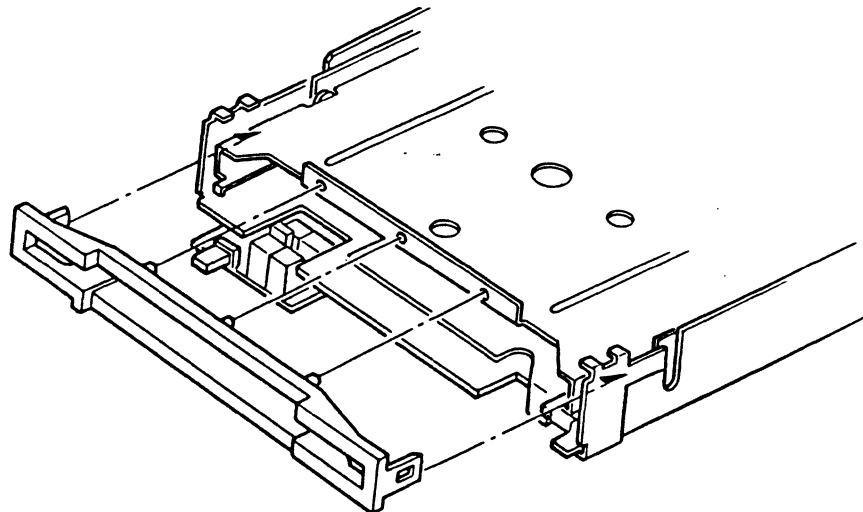
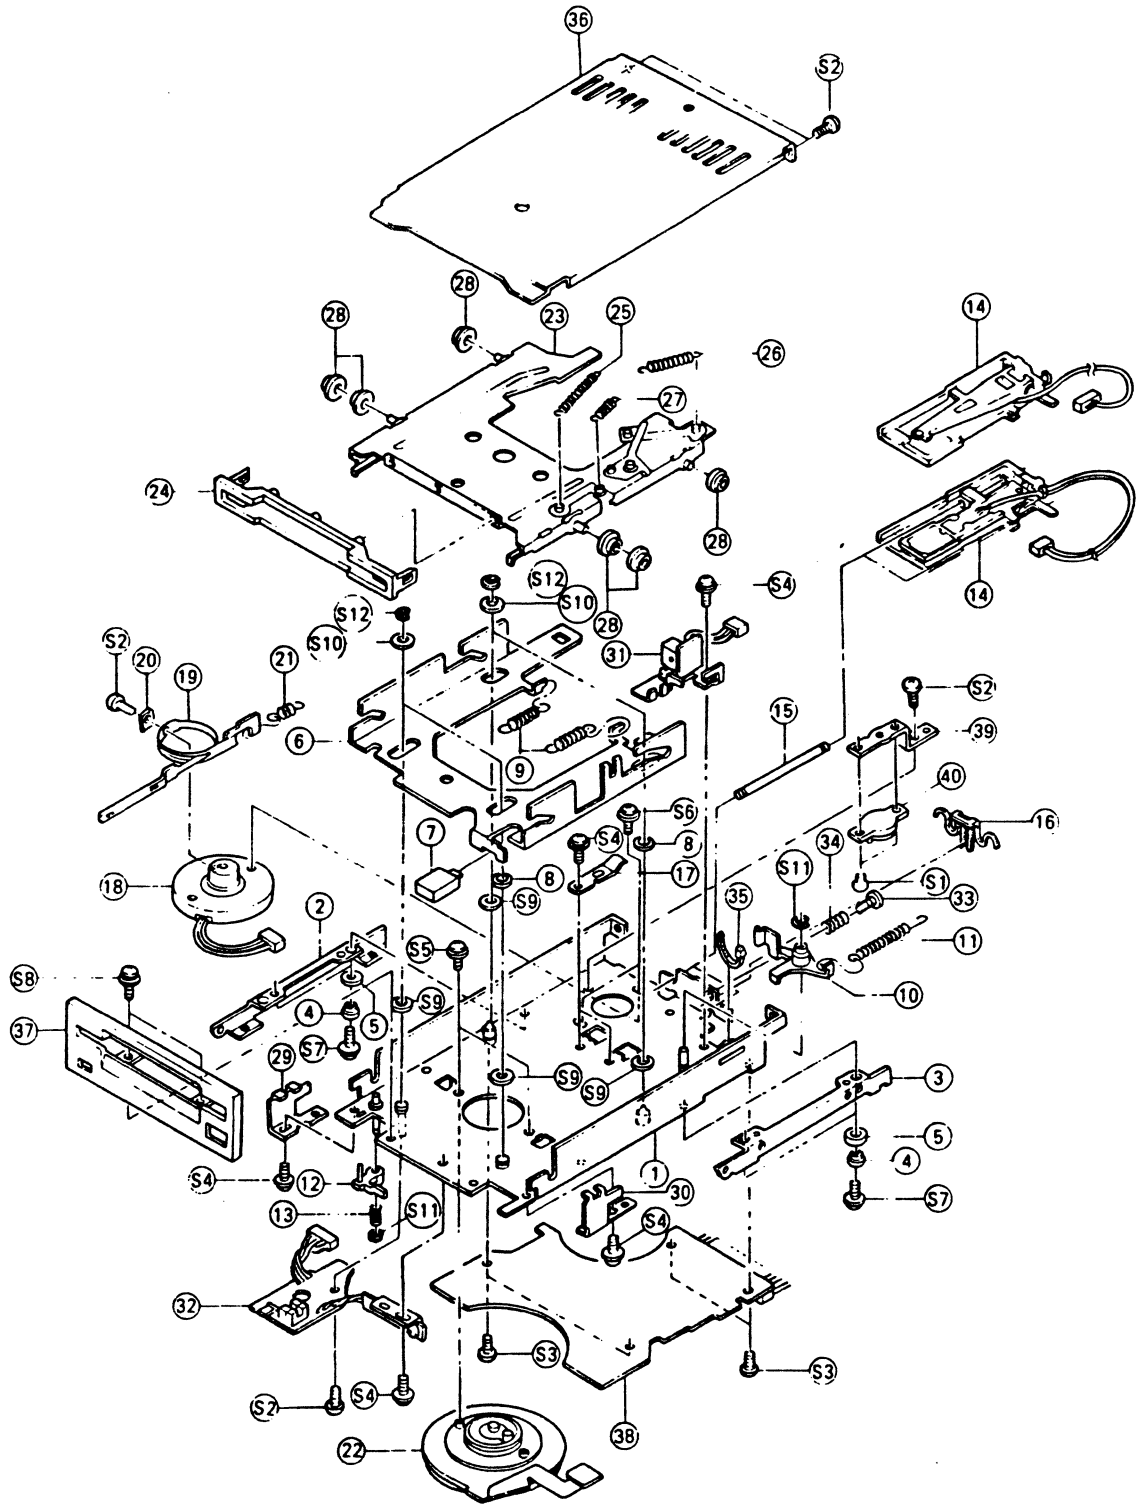

Fig.421 Replacing Front Door
Fig. 505 Disassembled View of Mechanism
- (1) Loosen the screw (Fig.505, $\text{\textcircled{S8}}$) mounting the front bezel (Fig. 505, $\text{\textcircled{37}}$), and pull the front bezel this side to remove. Take care not to drop the eject button.
- (2) Remount a new front bezel in the reverse procedure.
- (1) Remove the shield plate (Fig.505, ③⑥) by loosening the set-screws (Fig.505, ⑤②).
- (2) Remove the front bezel (Fig.505, ③⑦) by loosening the set-screws (Fig.50, ⑤⑧).
- (3) Remove the eject button (Fig.505, ⑦).
- (4) Remove the front door (Fig.505, ②④) from the disk housing assembly (Fig.505, ②③). The removal is facilitated by pulling while expanding by the tweezers the portion engaged with the claw of the disk housing assembly (see Fig.421).
- (5) In the procedure reverse to (4), mount a new front door.
- (6) Remount the eject button, and attach the front bezel by the setscrews.
- (7) Mount the shield plate by the setscrews.
- (1) Remove the front bezel (Fig.505, ③7) by loosening the setscrews (Fig.505, ③8).
- (2) Remove the eject button and replace it with a new one.
- (3) Mount the front bezel by the setscrews.
5-2-1 Floppy Disk Drive chassis (Refer to Fig.505)